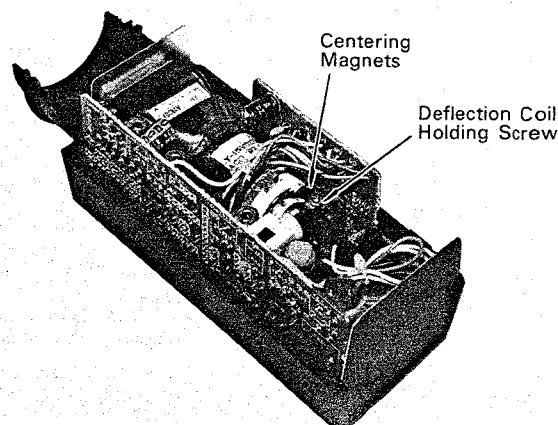
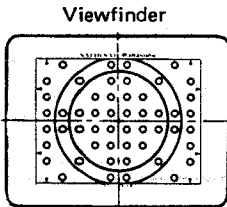

Fig. 6-5-1
Fig. 6-5-2
- Loosen the deflection coil holding screw. (Fig.6-5-1)
- Adjust the centering magnets (see Fig.6-5-1) until the center of the picture(+) comes to the center of the viewfinder raster. (Fig.6-5-2)